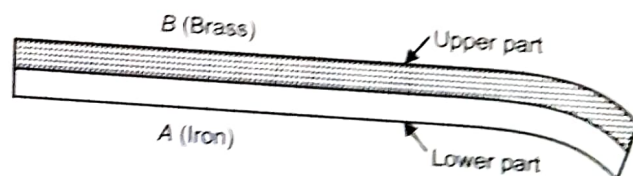

Fig. 33. Bending of bimetallic strip on heating
3. It is observed that the free end of the bimetallic strip is bent in the form of an arc. (Fig. 33)